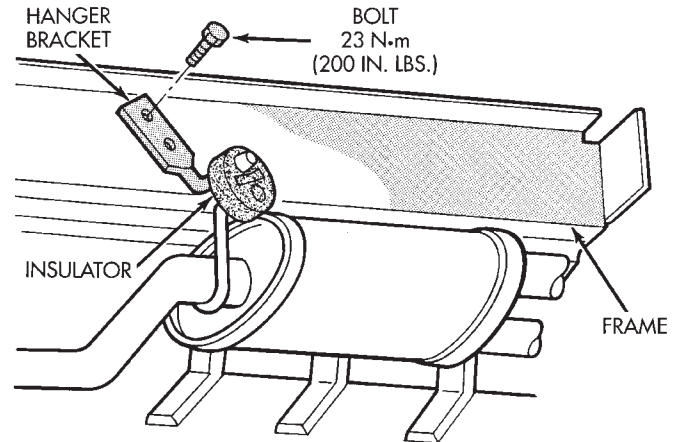

Fig. 6 Rubber Isolator Hanger (Typical)
- (4) Remove the rubber isolators from the welded exhaust system rod wire hangers (Fig. 6).
- (5) Carefully maneuver the front down pipes past the engine, support cradle, and transmission. Lay the exhaust system on the ground.